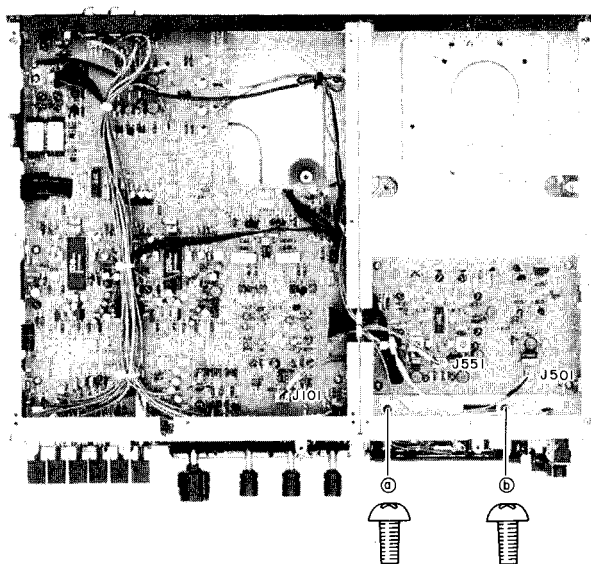

Fig. 4-3
- 1) Remove connector J101 from the PRE AMP PCB and the J501 and J551 from the OSC PCB. Next, remove mechanism block securing screws ③ and ④. (See Fig. 4-3.)